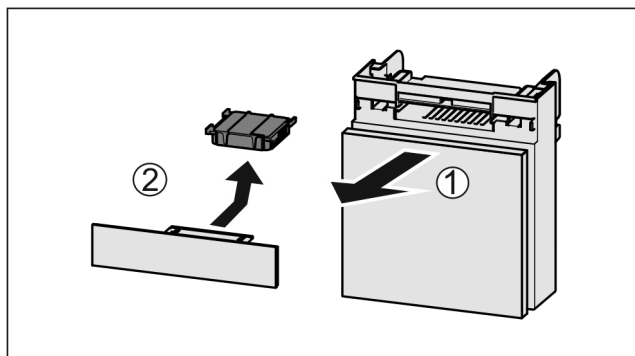

Fig. 218
- Pull out the compartment Fig. 218 (1).
- Remove the carbon filter Fig. 218 (2).